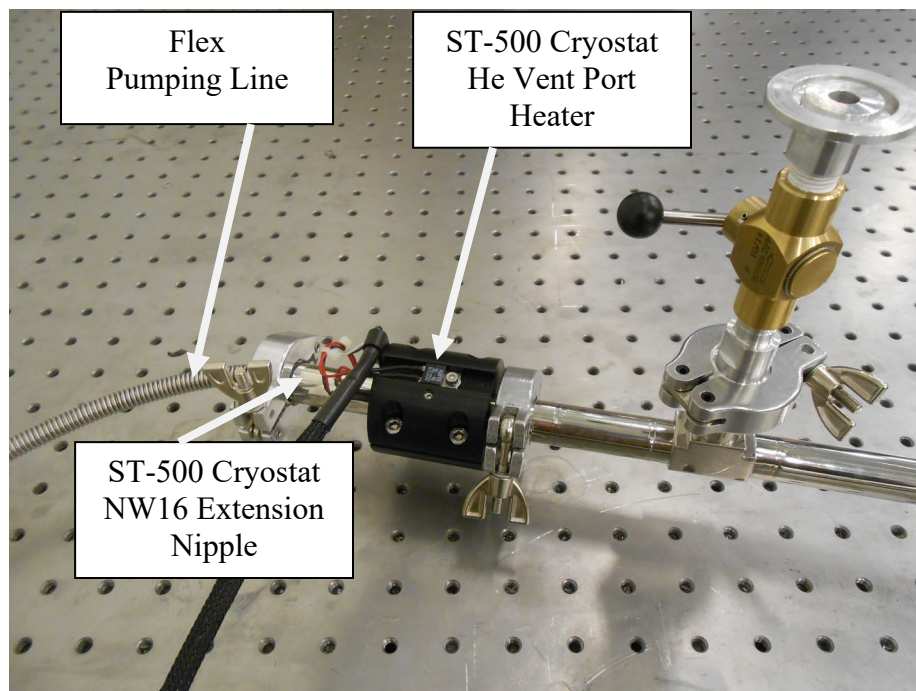

Figure 4 ST-500 Cryostat He Vent Port
- 5.2 At the SuperTran Cryostat NW-16 (or NW-25) vent port, install the provided extension nipple with the heater (see **Figure 4** where SuperTran ST-500 shown).
- 5.3 Connect the SuperTran cryostat extension nipple with the vibration isolator using provided NW-25 (or NW-16 for ST-100 cryostat) flex pumping line (see **Figures 4, 1 and 2**).
- 9.5 Plug in the SuperTran cryostat helium vent port electrical heater to automatically keep the vent port at ~ 50 C degrees during cooling to avoid the ice formation (see **Figure 4** where the heater with ST-500 cryostat is shown).